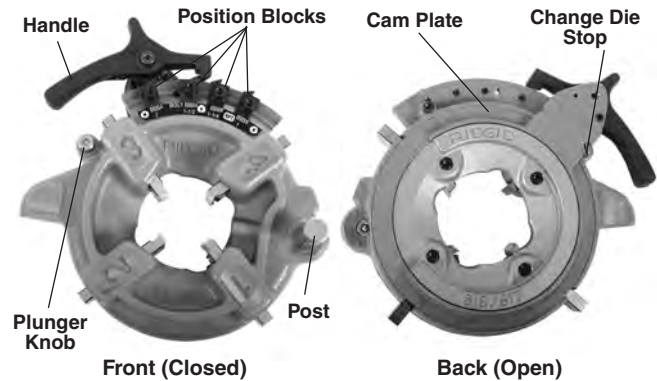

Figure 13 – Semi-Automatic Die Head
- Depress handle so that cam plate rests against the change die stop (Figure 13). The cam plate/handle assembly is spring loaded and will move when depressed.